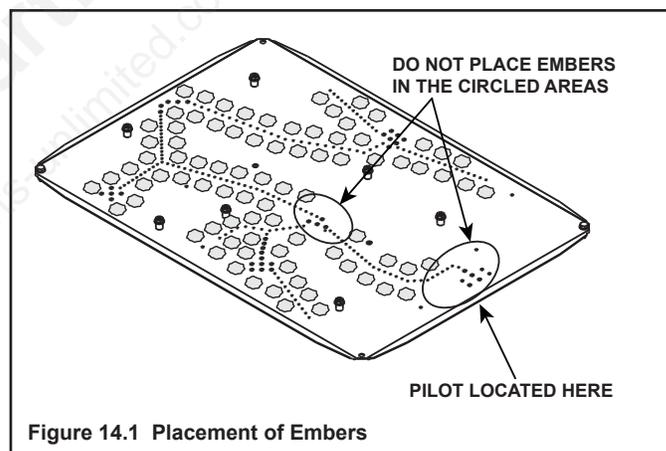

Figure 14.1 Placement of Embers
- When placing Glowing Embers® onto the burner care should be taken so that the ports are not covered. Place the dime-size ember pieces just in front of the port trail, but not on or in between the ports (see Figure 14.1). Failure to follow this procedure will likely cause lighting and sooting problems.